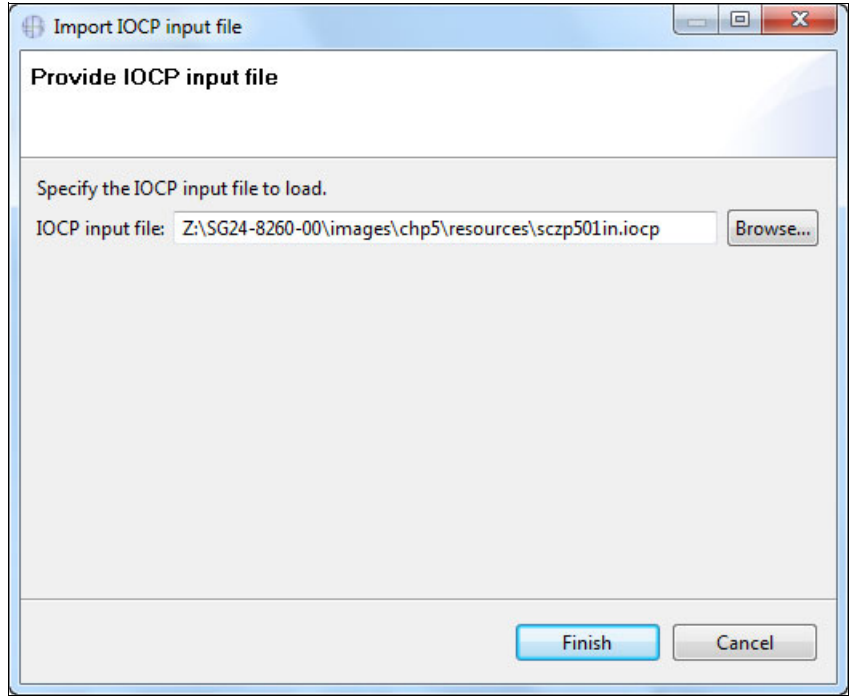

Figure 7-22 CMT - Specifying the IOCP file for import
2. Select the IOCP file on your workstation to import into the CHPID Mapping Tool and click **Finish** (Figure 7-22).